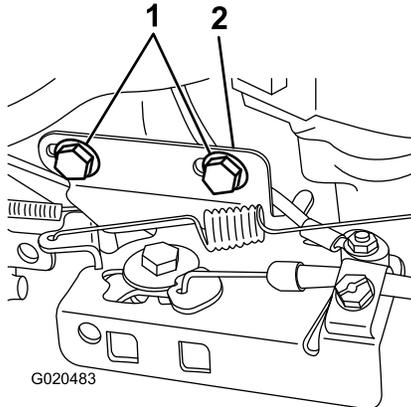

Figure 35
1. Loosen the 2 bolts securing the cable attachment bracket and slide it as far as possible to the left then tighten the 2 bolts (Figure 35).